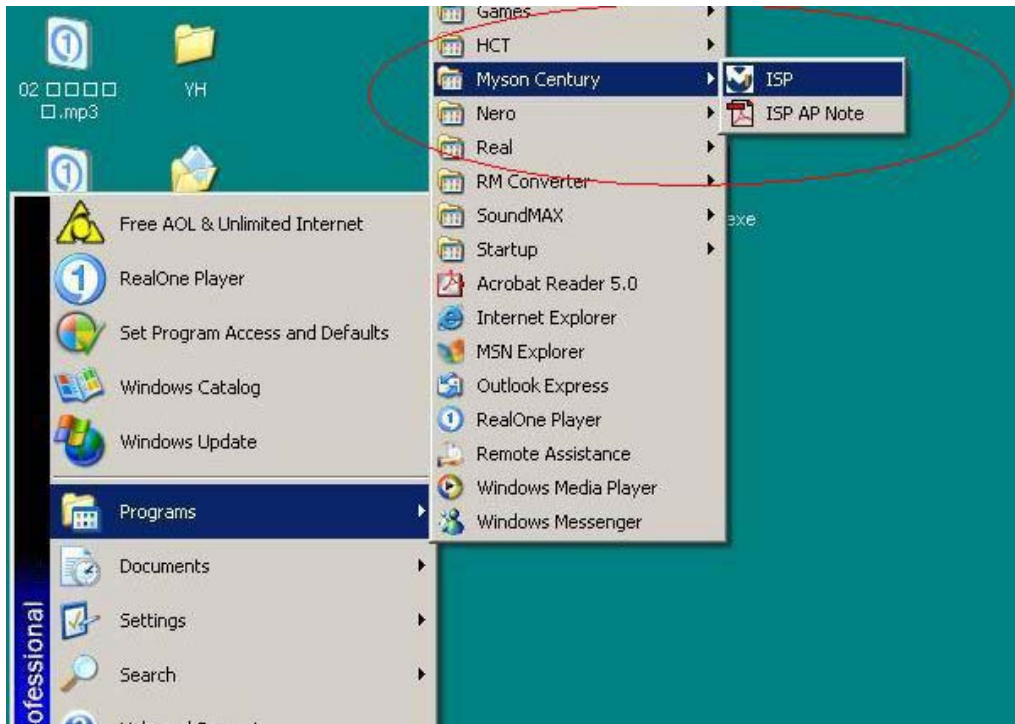

Fig. 2.1
1. After installation, shortcuts may be found in the settings path or the program menu (default setting); see Fig 2.1.